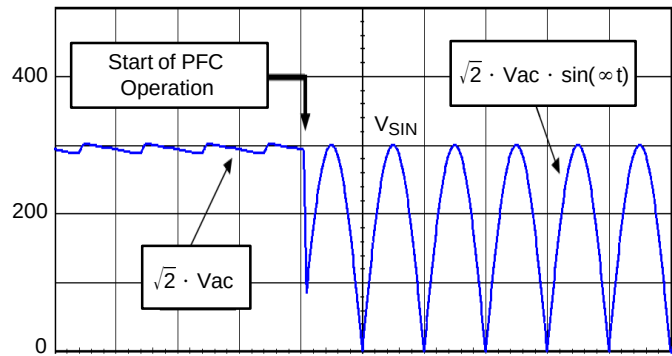

Figure 69. Typical Input Voltage of a PFC Stage
i.e., about 64% of the previous value. Therefore, the same line magnitude leads to a V_{pin2} voltage that is 36% lower when the PFC is working than when it is off (refer to Figure 69). That is why the NCP1605 features a 50% hysteresis ($V_{BOH} = 50\% V_{BOH}$).